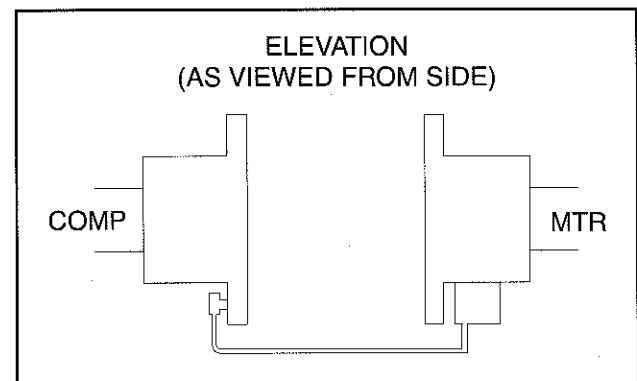

FIG. 3 - DIAL INDICATOR AT 6 O'CLOCK
4. Rotate both coupling hubs together 180° (6 o'clock position), as shown in Fig. 3. At this position the dial indicator will show TOTAL angular misalignment.